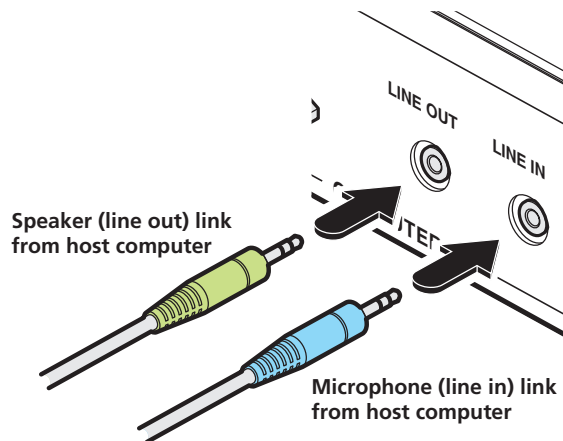

Figure 3-6. Connect the speaker and microphone cables to audio sockets.
- 1 Connect an audio link cable between the LINE OUT socket on the Local unit rear panel and the speaker output (line out) socket of the host computer. See Figure 3-6.